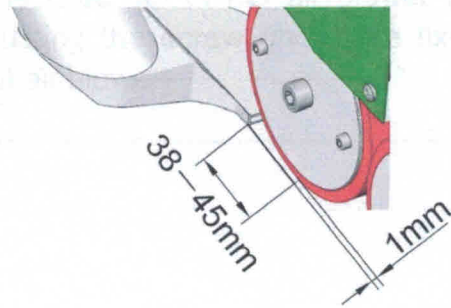

Figure 6
2. The distance between hot air nozzle and drive roller should be shown as figure 6. (We have adjusted the distance before leaving factory). You can adjust hot air nozzle adjusting screw (28) if the distance is not right.